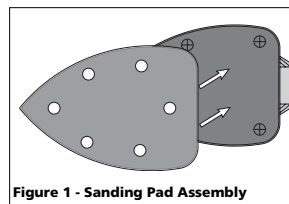

Figure 1 - Sanding Pad Assembly
2. Align and position sanding disk over backing pad. Press securely to hold in place (See Figure 1).